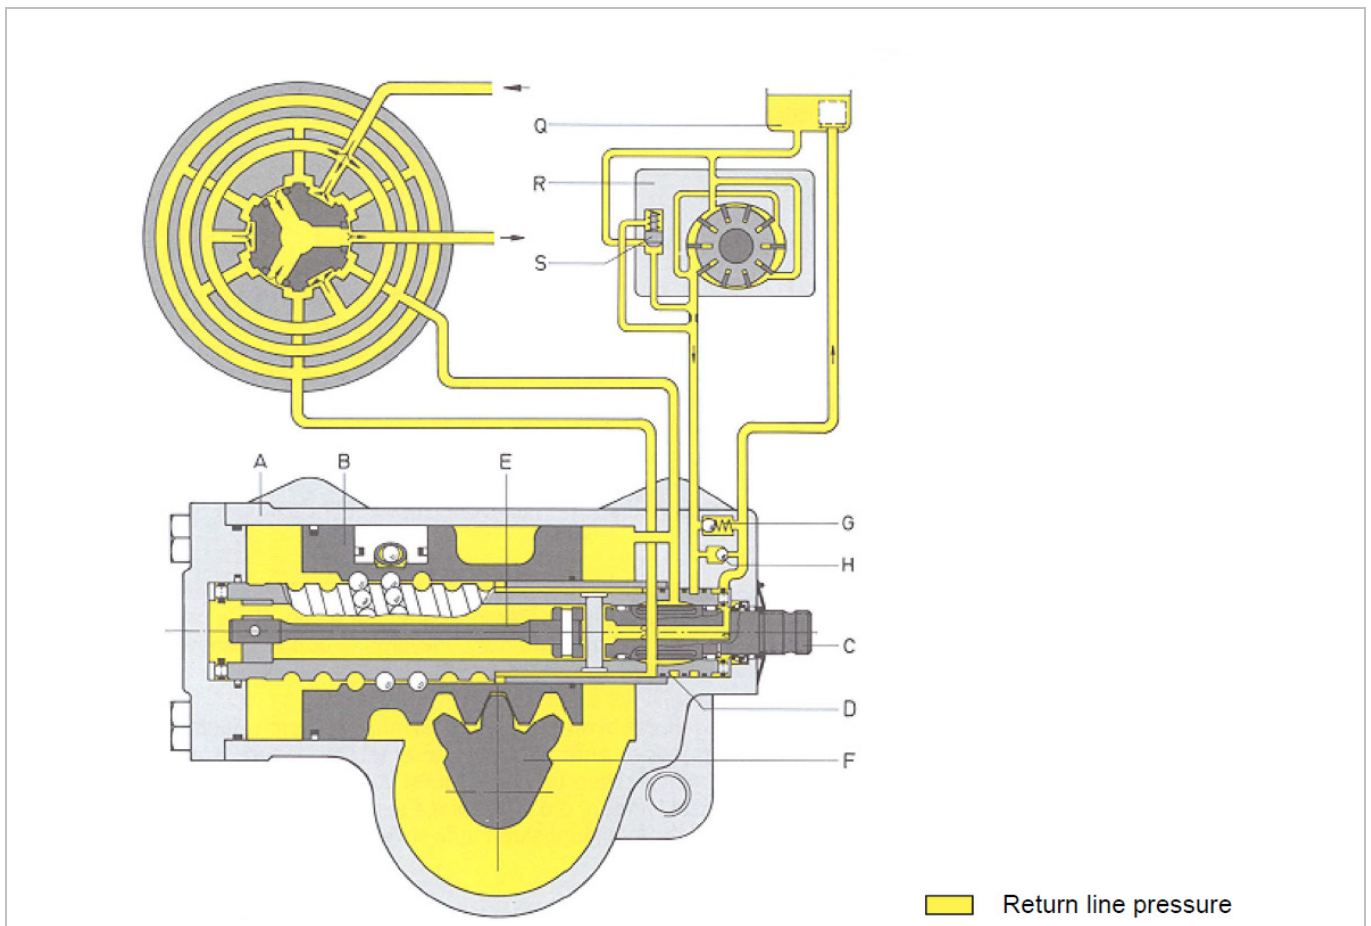
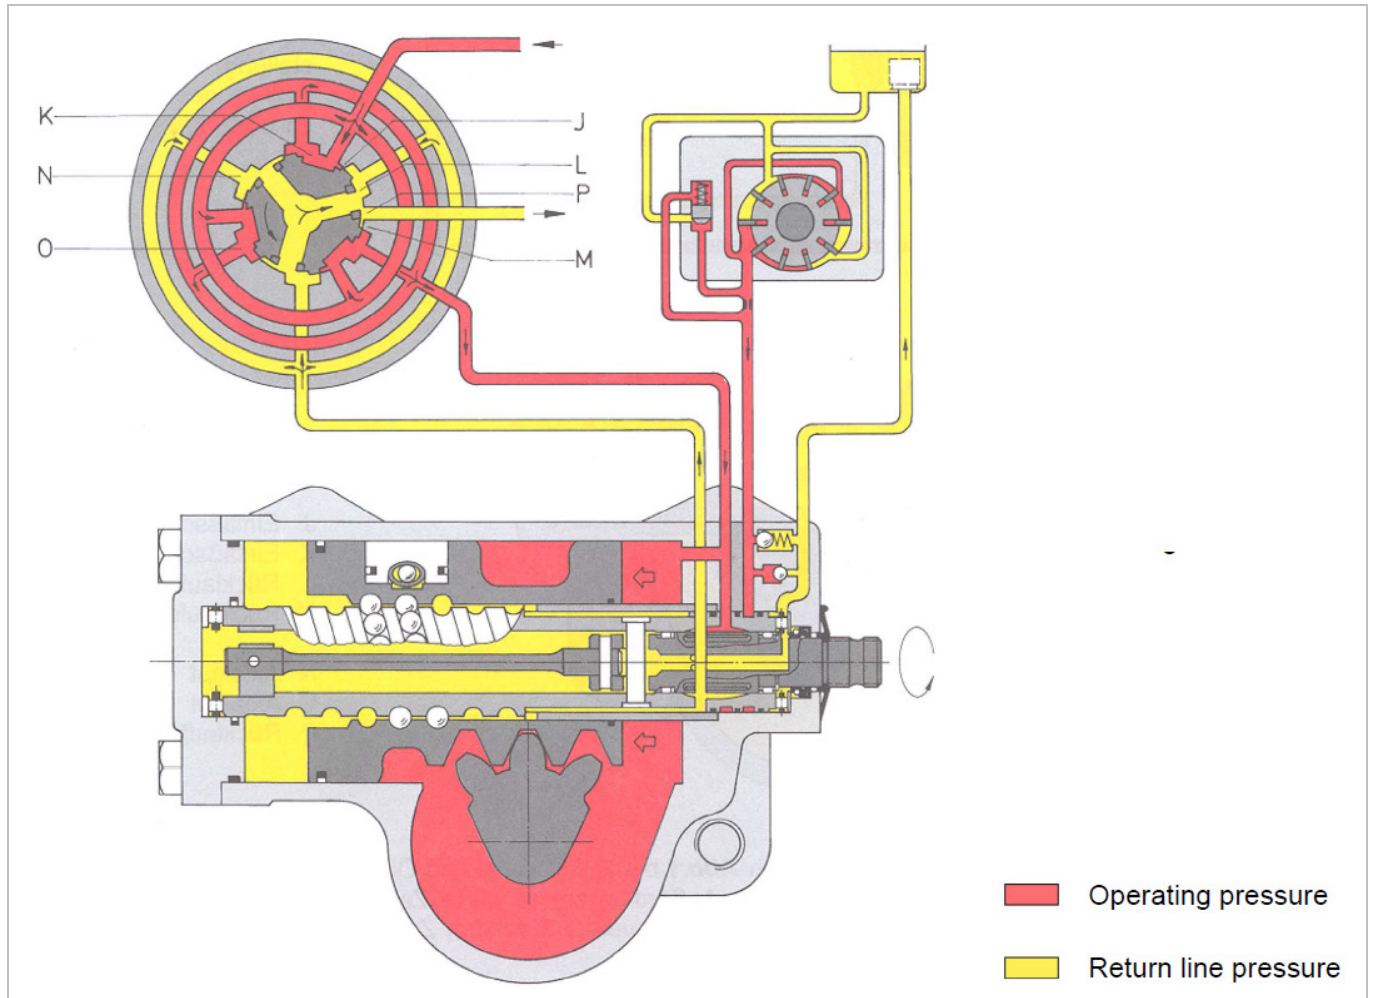

Fig. 1: Valve rotor in mid-position
Fig. 3: Valve rotor in operating position; Steering wheel turned counter-clockwise, piston with right-handed thread
The oil flow and the pressure required by the steering gear is supplied by an engine-driven pump. To achieve this, the oil is taken in from the oil tank and fed back to the tank via the pump and the steering gear. The housing (A) - see Fig. 1- and the piston (B) have the function of a cylinder. The piston transforms the rotation of the steering input shaft (C) and of the worm (D) into an axial motion which it transmits to the sector shaft (F). The piston (B) and the worm (D) are positively connected with each other by means of a ball chain. As the worm rotates, the balls at one end of the chain are taken up by a recirculation tube and fed back to the other end so that an endless ball chain is formed. The teeth of the piston (B) and of the sector shaft (F) cause the sector shaft to rotate when the piston is displaced.
The 3 functional drawings to Fig. 1 to Fig. 3 give a simplified representation of the steering valve and the oil flow. In addition, these figures give a cross-sectional view of the steering valve in order to schematically represent the connections from the steering valve to the cylinder chambers and the mode of operation of the valve.
When the steering wheel is turned to the left, the piston will shift to the left (Fig. 3). Therefore, pressure build-up now takes place in the right-hand cylinder chamber. The control grooves of the valve rotor are displaced counter-clockwise and allow the oil to flow through the opened inlet slots (J) to the axial grooves (O) from where there is a connection to the right-hand cylinder chamber.